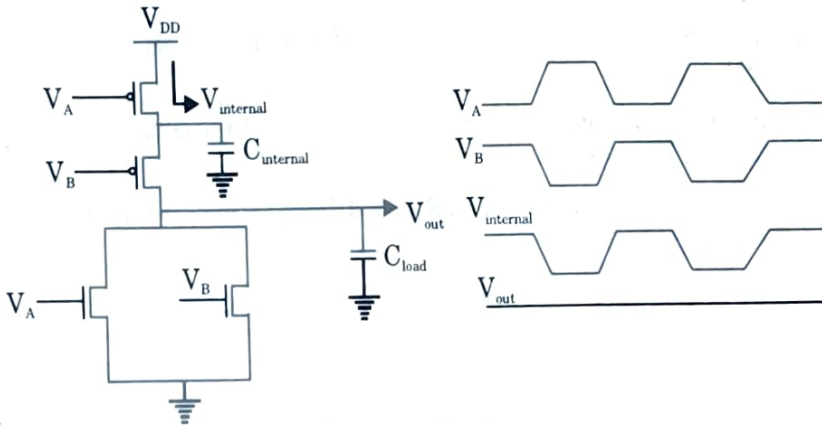

Fig. 4.12.2.
11. An internal node may undergo several transitions while the output node voltage of the circuit remains unchanged as shown in Fig. 4.12.2.